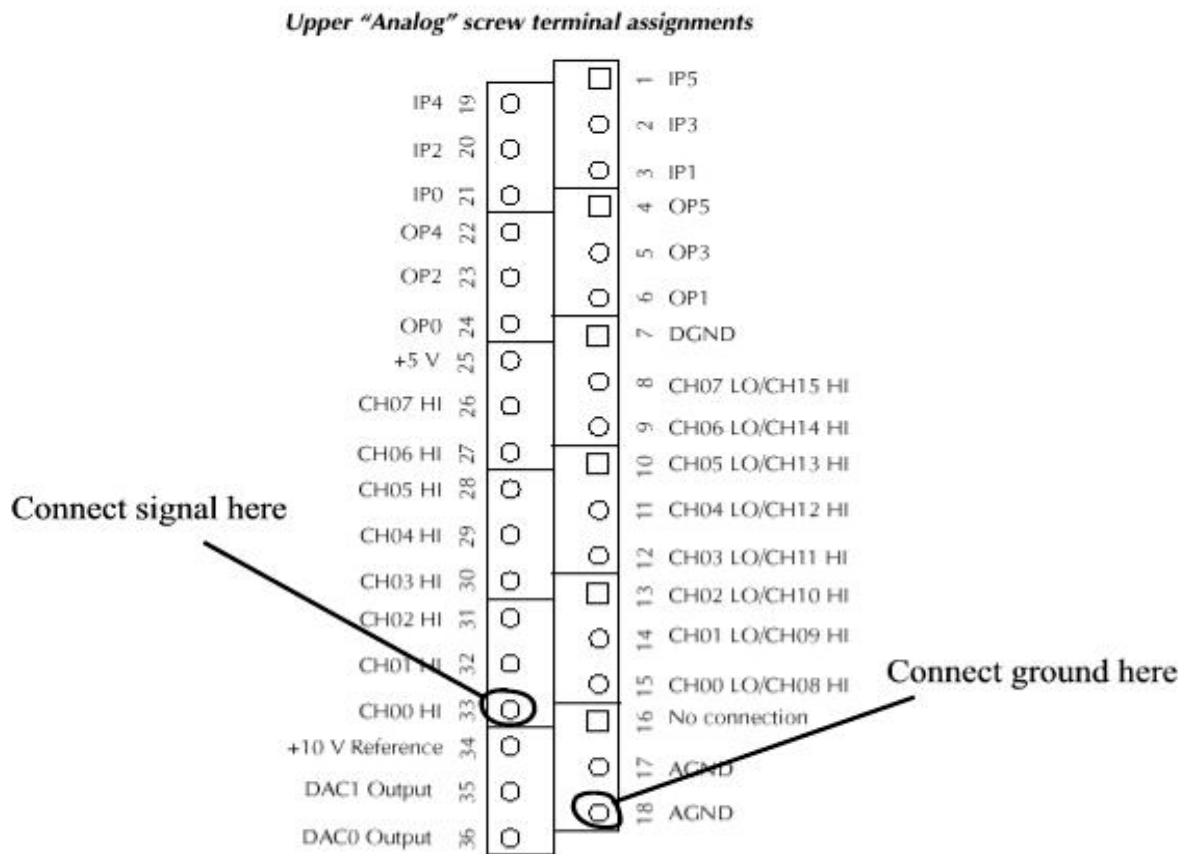

Figure 8. Analog screw terminal assignments
1. Use the alligator clips to connect the +6V output of the power supply to input 33 (channel 0) and the -6V output of the power supply to input 18 (analog ground) on the green terminal strip of the Keithley STP-36 analog connection module. This is the green printed circuit board that contains 36 mechanical compression terminals and is connected by a cable to the Keithley DAQ card inside the computer. You should have already specified channel 0 and device number 1 in steps 5 and 6 above. See Figure 8 for additional help.